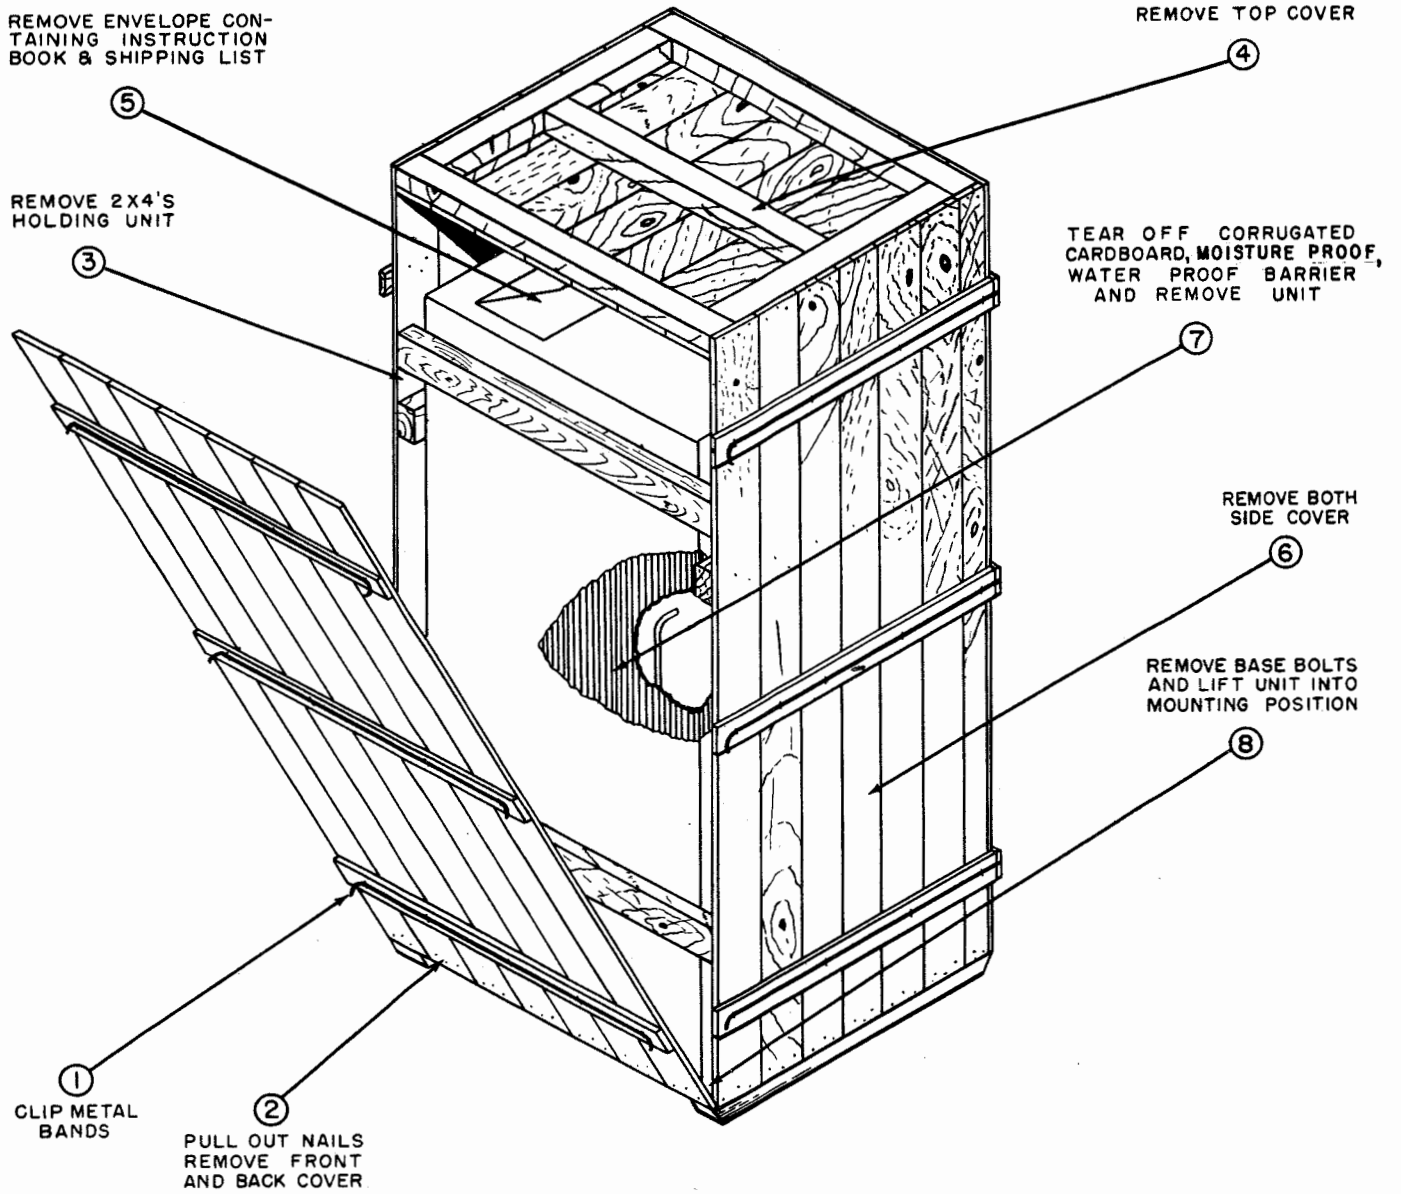

Figure 3-1. Unpacking Procedure
b. UNCRATING THE TRANSMITTER. - The procedure to be used in unpacking Radio Transmitting Set AN/SRT-17(XN-1) is shown in figure 3-1. The equipment packing case is marked with a list of the material contained therein. Items should be checked against this list or against the contractor's shipping list included with the Instruction Book in an envelope attached to the equipment.